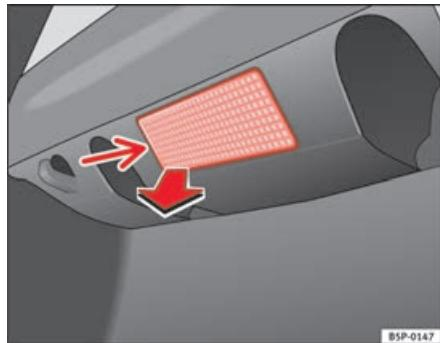

Fig. 169 Luggage compartment light
- Extract the tulip shaped fitting by pressing on the inside edge of this -arrow- using the flat side of a screwdriver ⇒ fig. 169.